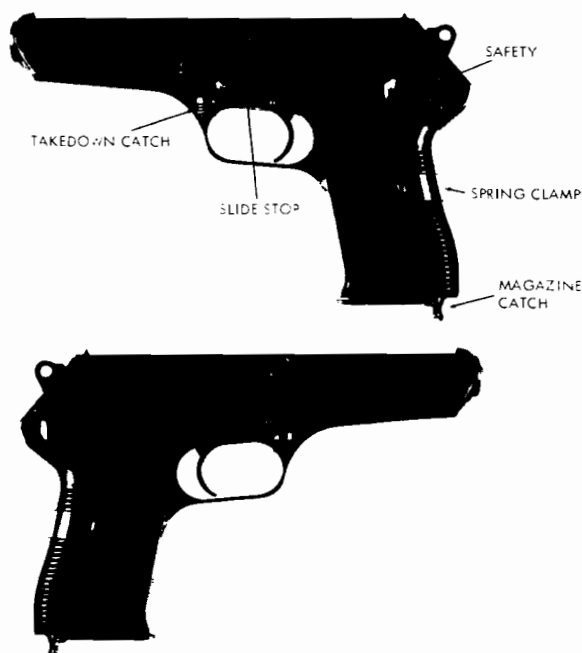

Figure 4. Czechoslovak 7.62-mm Vzor 52 pistol (Vz 52).
The Vz 52 pistol (fig. 4) is the standard sidearm of the Czechoslovak Army. It may also be found in use by other armies. It is an 8-shot, semiautomatic, short-recoil-operated, magazine-fed pistol, the design of which was greatly influenced by World War II German weapons. An automatic safety mechanism on the firing pin prevents the pin from firing a cartridge unless the trigger is first pulled. The weapon fires the Type "P" 7.62 x 25-mm pistol cartridge (sec. VI).
c. If desired, set the pistol to safe by rotating the safety (fig. 4) fully upward to drop the hammer (the weapon will not fire); then release the safety, which will move to the normal safe position.
f. To clear the pistol, set the safety on safe, remove the magazine, and retract the slide. The slide can be locked open by pressing upward on the slide stop (fig. 4) and then easing the slide forward until it is caught. Visually inspect the pistol
b. Pull the takedown catch, located on the front of the trigger guard (fig. 4), down until the slide moves slightly forward. Press the slide forward, about one-fourth of an inch, until it disengages from the receiver; then completely separate the slide and receiver groups.